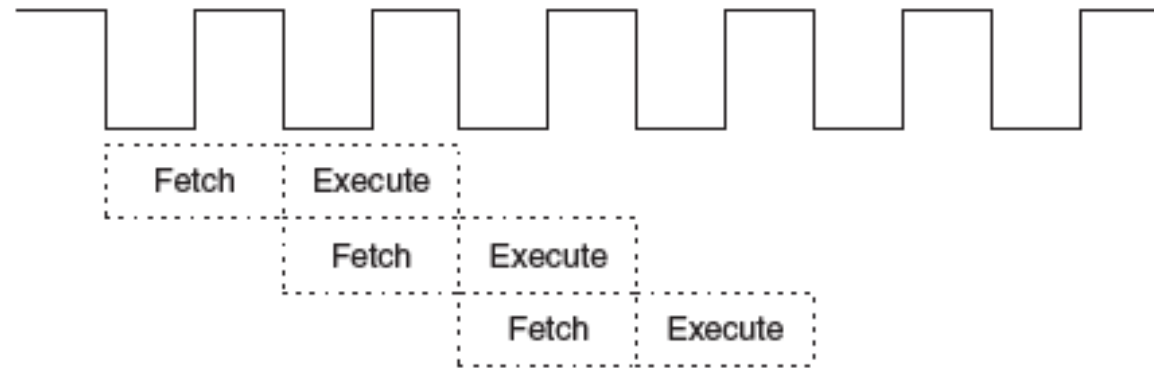

FIGURE 9.4 Execution cycle based on the Harvard architecture.
- the Harvard architecture takes **advantage of a common DS processor**, in which one register holds the **filter coefficient** while the other register holds the **data to be processed**, as depicted in Figure 9.4.